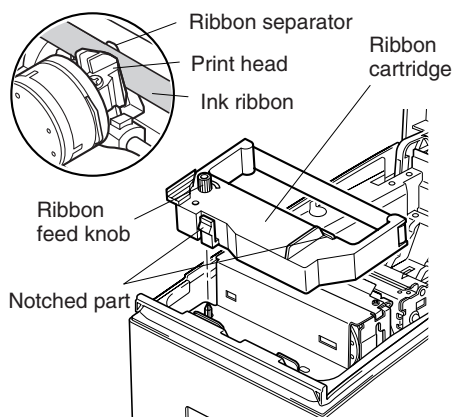

Fig. 5-2 Loading the ribbon cartridge
- ③ Place the ribbon cartridge in the direction shown in Fig. 5-2 and press it down to load it. If loading of the ribbon cartridge is not satisfactory, press down the cartridge while rotating the ribbon feed knob in the direction of the arrow.
- ④ Turn the ribbon feed knob of the ribbon cartridge in the direction of the arrow to remove slack in the ribbon.
- ⑤ Close the cover.